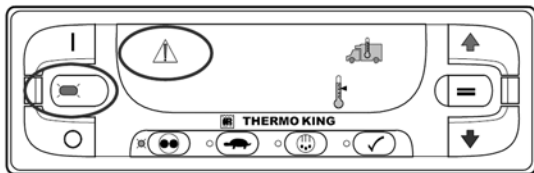

Figure 40: Alarm Code Displayed
3. Press the Standard Truck HMI Control Panel ON Key to turn the unit on. The Hourmeters display will briefly appear and then the screen will appear as shown in Figure 40.